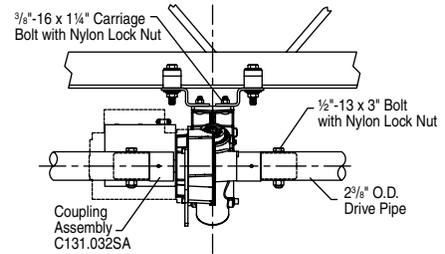

Figure 3
- ⑤ Using the project drawings, identify the 2 3/8 inch drive pipe sections that attach to the winch. Attach drive tube to winch output shafts using supplied couplers, key stock and set screws (see fig 3).